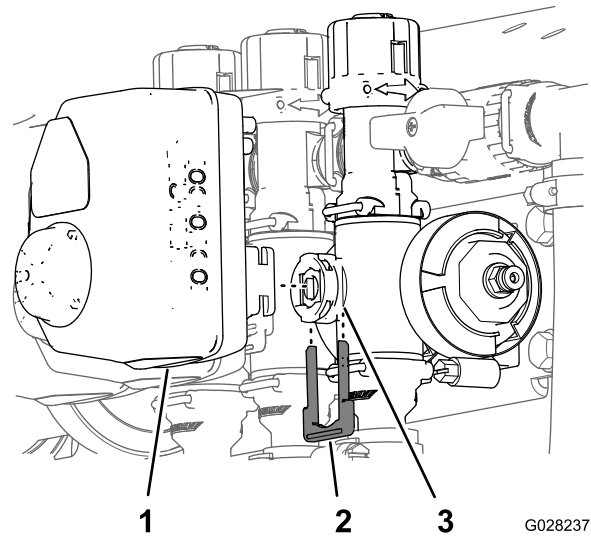

Figure 111
3. Remove the retainer that secures the actuator to the manifold valve for the rate control, agitation, master boom, or boom-section valve (Figure 111).